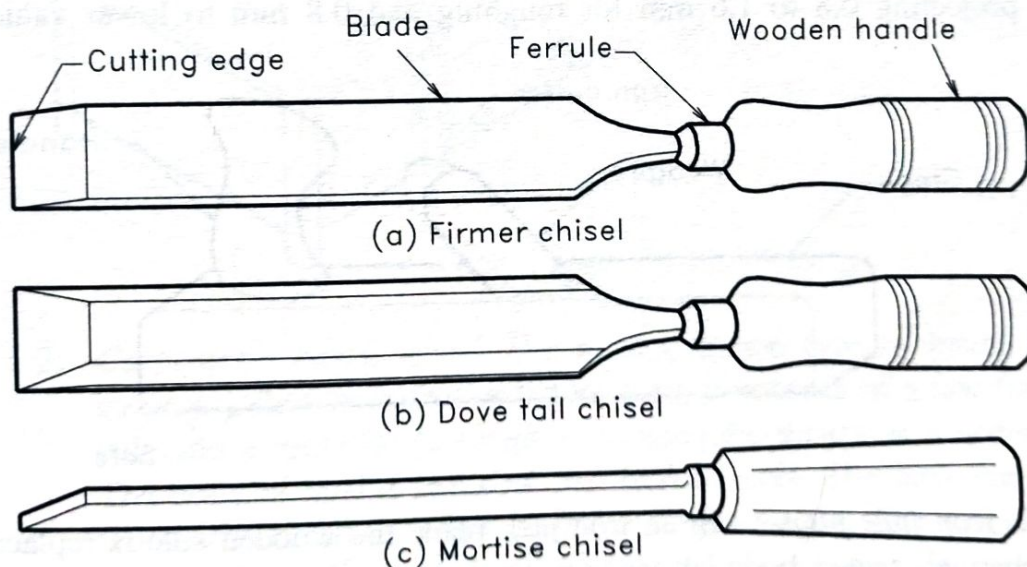

FIGURE 6.6
1. *Firmer chisel:* They are the most common and general purpose chisel used by a carpenter [Figure 6.6(a)]. They have flat blade of about 15 to 50 mm width and 125 mm length.
2. *Bevelled edge firmer (dove-tail) chisel:* These chisels are used for fine and delicate works as well as for cutting corners [Figure 6.6(b)].
3. *Mortise chisel:* These chisels are used for heavy and deep cuts to remove a large quantity of wood. These chisels have width of about 15 mm, but the blade thickness may range from 6 to 15 mm [Figure 6.6(c)].